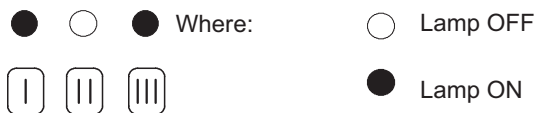

Figure 8.24
- 12 Press the reset button D repeatedly (4 times) until the lamps F give the indication as in Figure 8.24 (ignition pressure adjustment mode).